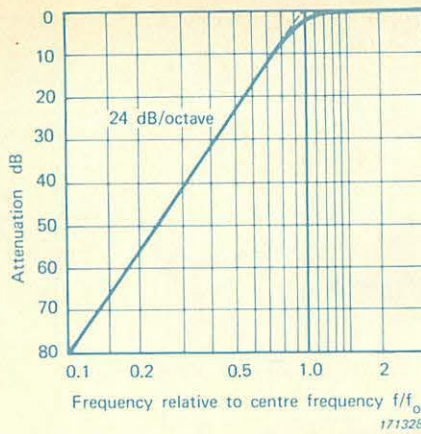

Fig. 9. High pass filter limiting curve
(3) **High Pass,** and (4) **Low Pass Filters** have 4-pole butterworth networks with 3 dB attenuation at the tuned frequency and a slope of 24 dB/octave. See Figs. 9 and 10.